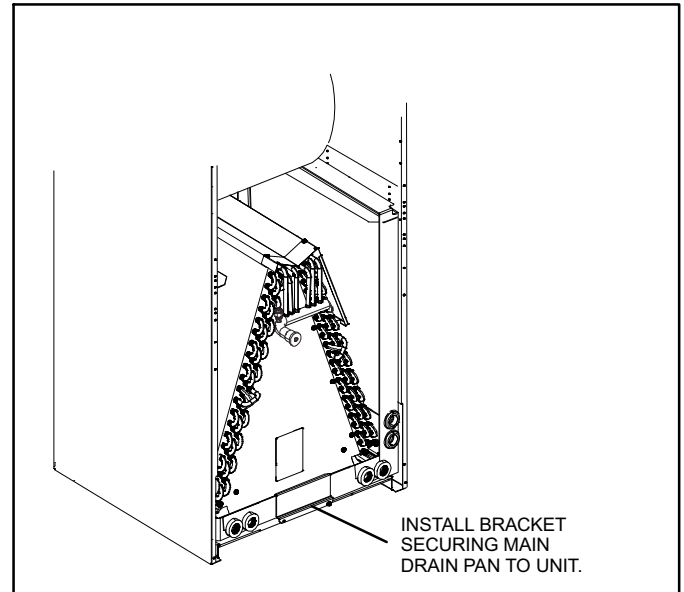

Figure 6. Install Main Drain Pan Mounting Bracket (-018 through -036)
5. Re-install modified coil/drain pan assembly in air handler in the same orientation as before (figures 6 and 7).